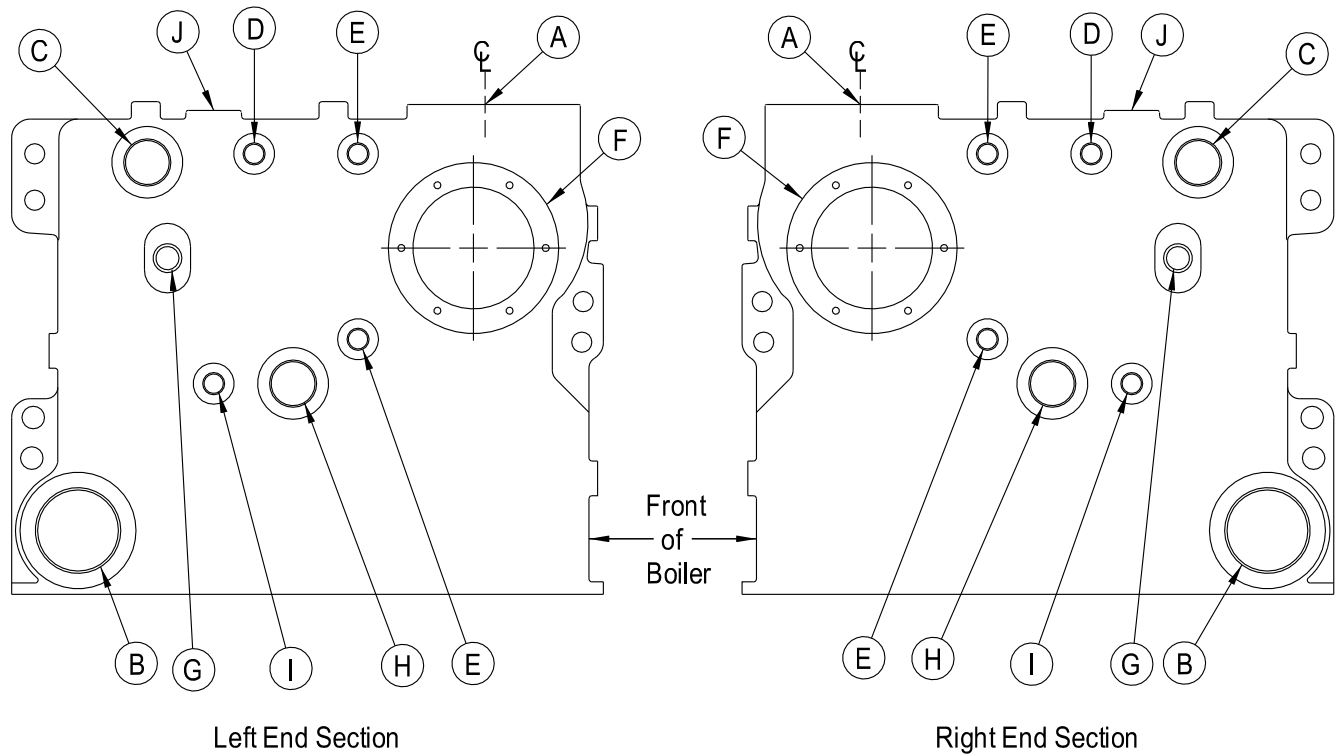
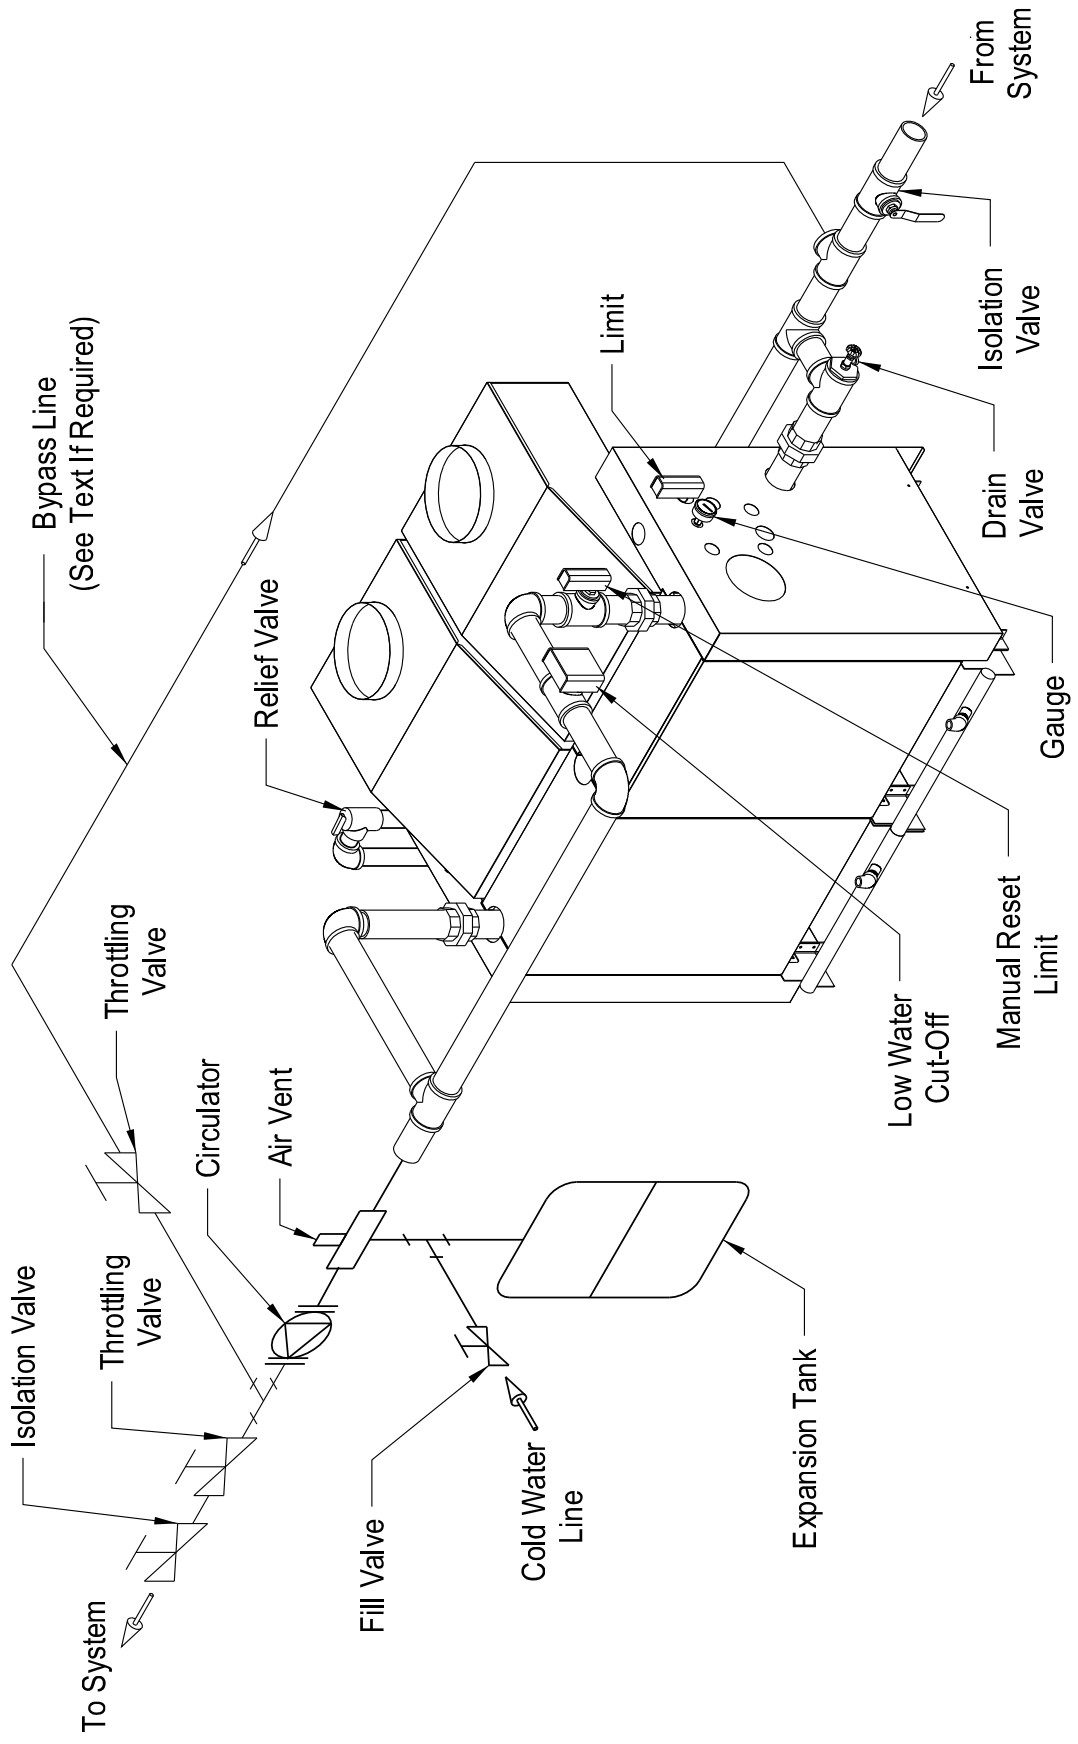

Figure 29: Water Boiler Tapping Locations
Figure 30: Typical Water Boiler System Piping
- 1) Figure 30 shows the recommended water boiler system piping. Use Table 8 to determine the supply riser, supply header, return header and boiler return piping connection sizes for the appropriate boiler model. On boilers requiring one supply riser, use the supply connection opposite the return connection. Install the trim on the same end as the supply connection. Additional information on hydronic system design may be found in the *I=B=R Advanced Installation and Piping Guide* (Pub. #250) published by the Hydronics Institute in Berkeley Heights, NJ or the *ASHRAE Systems Handbook*. Table 7 shows the use of all boiler tapings on water boilers. The tapping letter designations referenced are shown in Figure 29. The water trim components are as follows:
- d. **Pressure Relief Valve** (Required) - Before installing the relief valve, examine the tag on the valve and confirm that it has a capacity greater than or equal to the boiler’s gross output. Also confirm that its pressure setting is less than or equal to that marked on the boiler sections for water. Install Relief Valves in the “C” tapping on the opposite end of the boiler from the other trim. Install the relief valve using the elbow and nipples provided so that its’ spindle is vertically oriented (Figure 30).
- a. Circulator - The best circulator location is usually on the supply piping just downstream of the expansion tank as shown in Figure 30.
- a. Low System Return Temperatures - The bypass piping shown in Figure 30 will minimize the amount of time that the boiler operates with return temperatures below 120°F on these systems. A bypass is installed as shown to divert some supply water directly into the return water. The bypass pipe should be the same size as the supply. The two throttling valves shown are adjusted so that the return temperature rises above 120°F during the first few minutes of operation. A three-way valve can be substituted for the two throttling valves shown.